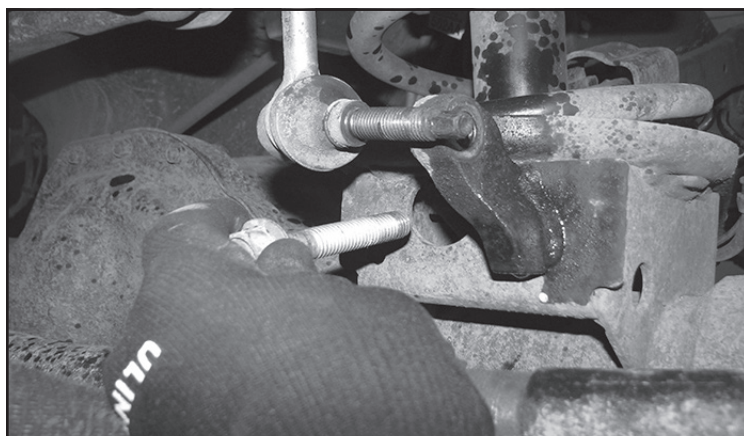

FIGURE 2 - STEP 3
3. Remove and save the lower shock bolt under the spring mount. **SEE FIGURE 2**